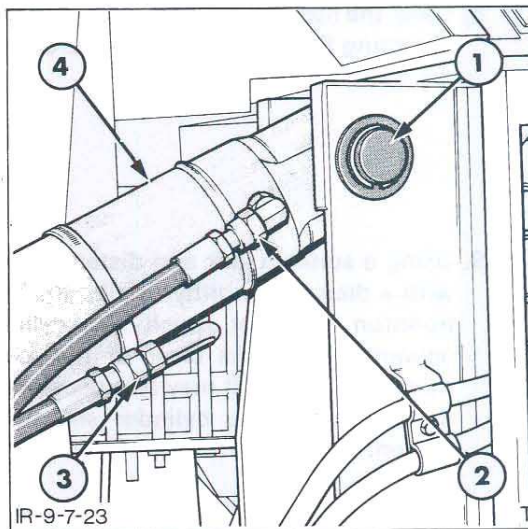

Figure 23
3. Disconnect the hydraulic hoses on the cylinder to be removed, Figure 23.